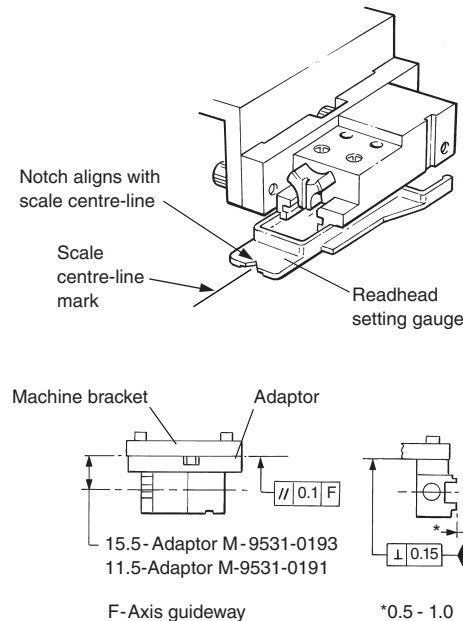

Figure 2a Applicator set-up
1. Set the machine bracket with 11.5 mm or 15.5 mm offset from scale centreline, as appropriate, depending upon which way round the readhead is to be mounted. This can be done by measurement or by attaching the assembled applicator to the machine bracket, locating it into the readhead setting gauge and adjusting the position to align the setting gauge notch over the marked centreline, see Figure 2a.
2. Adjust the readhead mounting bracket to ensure that the readhead mounting face is square to the scale's mounting surface and parallel to the axis guideway within the tolerances shown in Figure 2a.